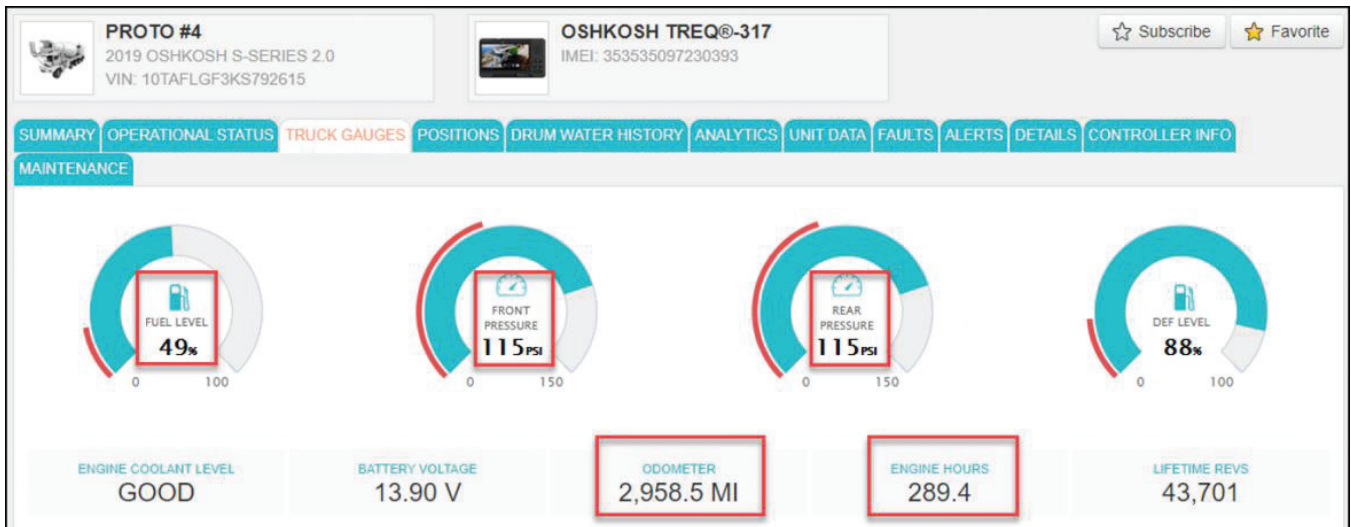

Figure 10
25. Check the ClearSky data by clicking on the TRUCK GAUGES tab and making sure the ClearSky gauges match what is shown on the gauges in the truck. See Figure 10. Gauges include fuel level, front air tank pressure, rear air tank pressure, odometer, and engine hours.